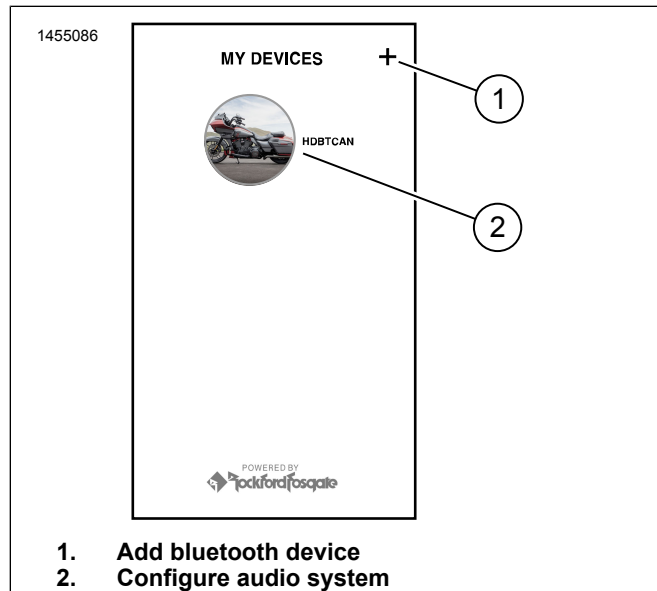

Figure 7. System Access
1. See Figure 7. Accessing your audio system.
- a. Pair device (1) to system.
- b. Access app menus (2) to setup vehicle sound system.